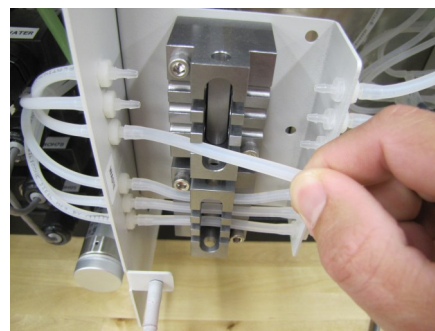

Figure 7
5. Remove the six tubes from the barbed fittings on the left and right side of the Pinch Valve Bracket. See Figure 7.